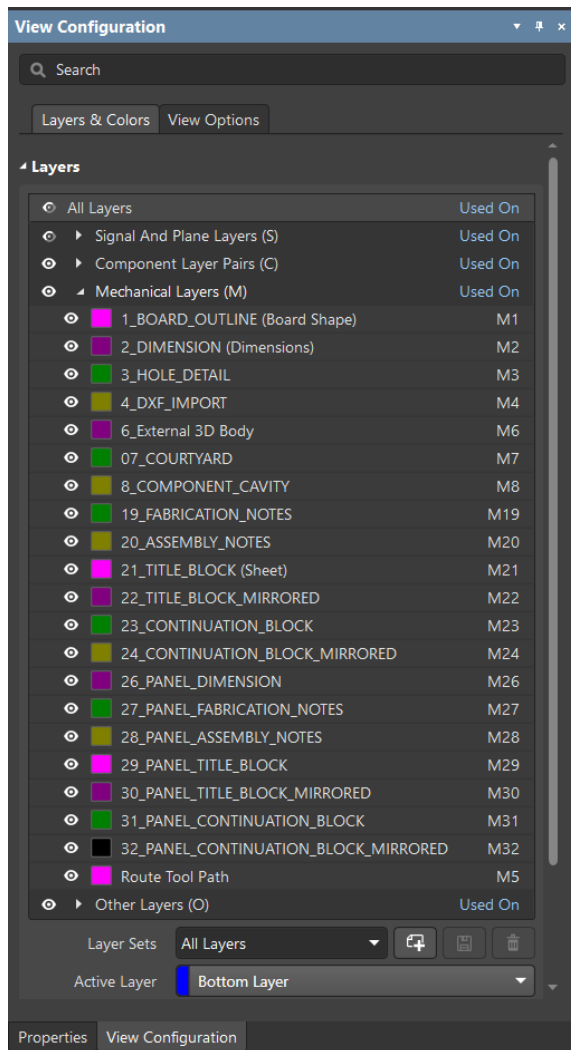

Figure 3. Mechanical Layer configuration
21. After loading the *.stackup file, notice the new configuration of the mechanical layers, see Figure 3.